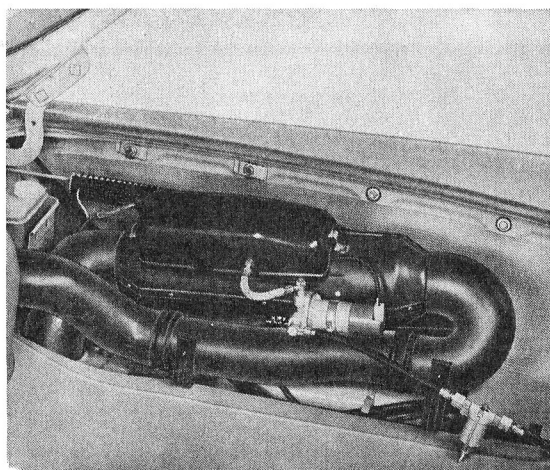

Fig. 16
- 25 – Install air circulation pipe and warm air elbow (page F 4.20/3–1 and Fig. 16).